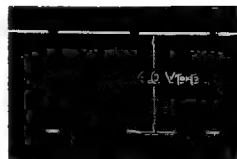

Fig. 2-2
- (1) Connect an oscilloscope to TP-2 on SG BOARD BASE (75 Ω termination).
- (2) Adjust R53 (HD LEVEL) so that a voltage of 4 Vp-p \pm 0.2 V is obtained as shown in Fig. 2-2.